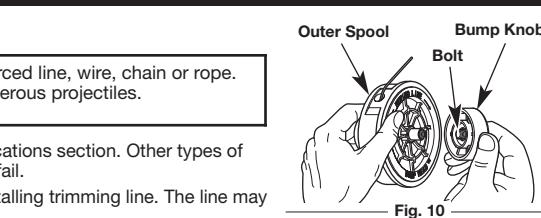

Fig. 10
- Hold the outer spool with one hand and unscrew the bump knob counterclockwise (Fig. 10).